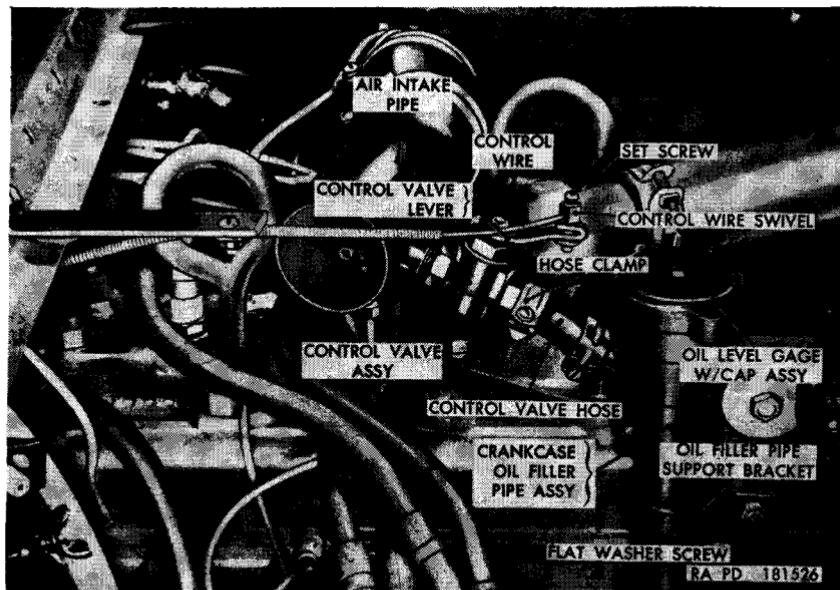

Figure 28. Air cleaner control valve assembly—air cleaner removed.
a. Air Cleaner Control Valve Assembly (fig. 28).
(1) Removal.
(2) Installation.
(fig. 28)